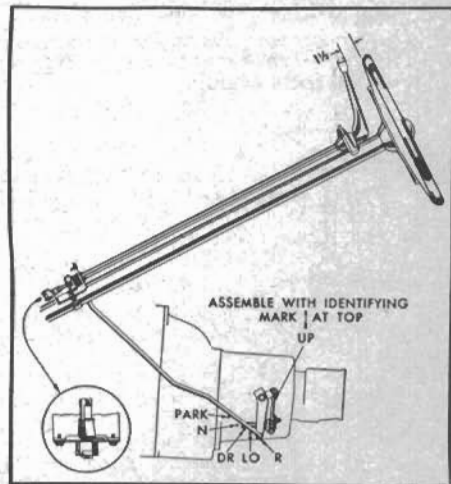

Fig. 14 Control lever to steering wheel clearance. 1952-53 Powerglide
3. Place selector lever in reverse and check clearance between control lever and steering wheel rim which should be $1\frac{1}{2}$ in., Fig. 14. To adjust, loosen lower support clamp bolts and move up or down as necessary.